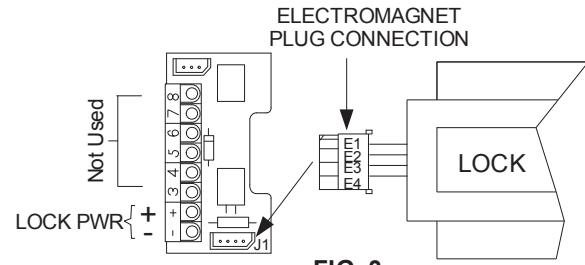

FIG. 3
4. Make all ElectroMagnetic Lock terminal connections according to Figure 3.
Check coil continuity with OHM meter. If reading is high or open, replace the magnet coil. See Fig. 3 and the Resistance Specifications.
Coil shorts or incorrect wiring will blow fuses. Measure the coil for correct resistance. See Fig. 3 and the Resistance Specifications.